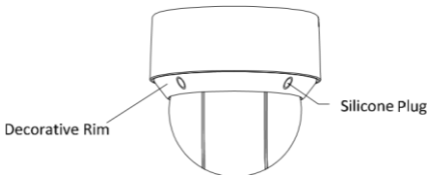

Figure 2-1 Remove the Silicone Plugs
1. Remove the four silicone plugs on the decorative rim as shown in Figure 2-1, and you can see four flange screws in the decorative rim.